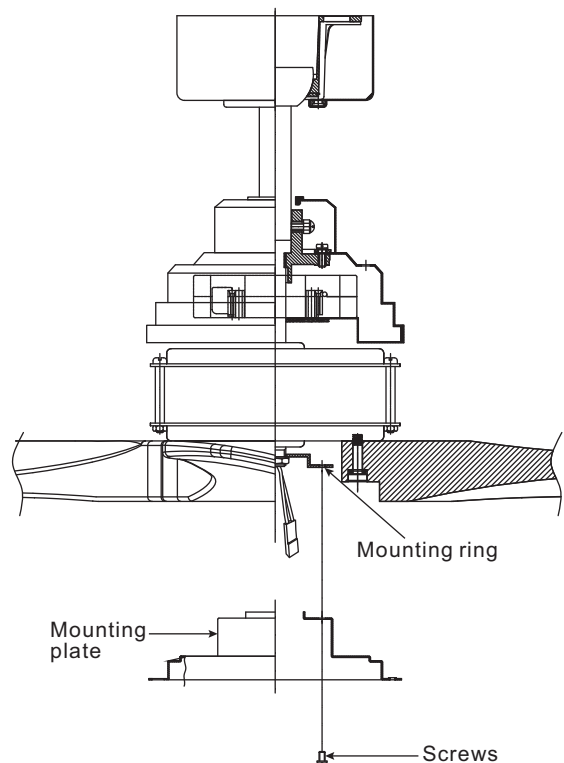

Figure 15
Step 3. Remove the 1 of 3 screws from the mounting ring and loosen the other 2 screws. (Do not remove) (Fig. 15)
Step 4. Place the key holes on the mounting plate over the 2 screws previously loosened from the mounting ring, turn mounting plate until it locks in place at the narrow section of the key holes. Secure by tightening the 2 screws previously loosened and the one previously removed. (Fig. 15)